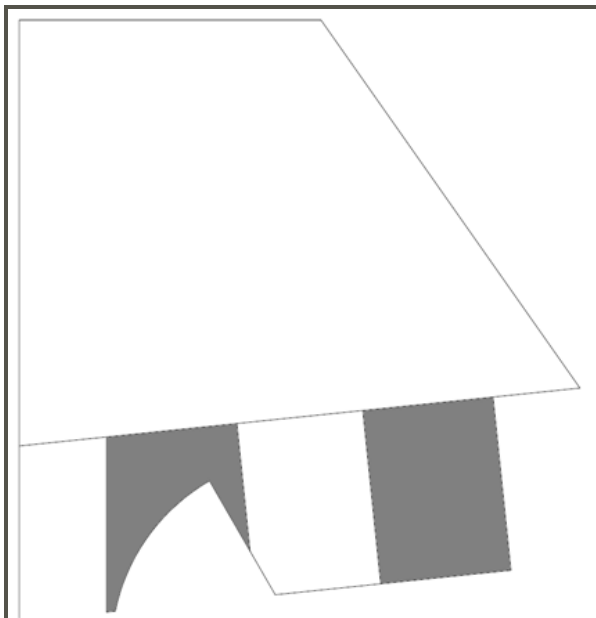

Figure 14 - Vertical Stabilizer Beveling Reference
- Again, using sand paper affixed to a flat sanding block, sand bevels in the front and the rear of the vertical stabilizer (A3) in the areas marked in gray in *Figure 14*. Sand evenly on both sides trying to thin down the front and rear to a fairly narrow profile (less than $\frac{1}{2}$ mm).